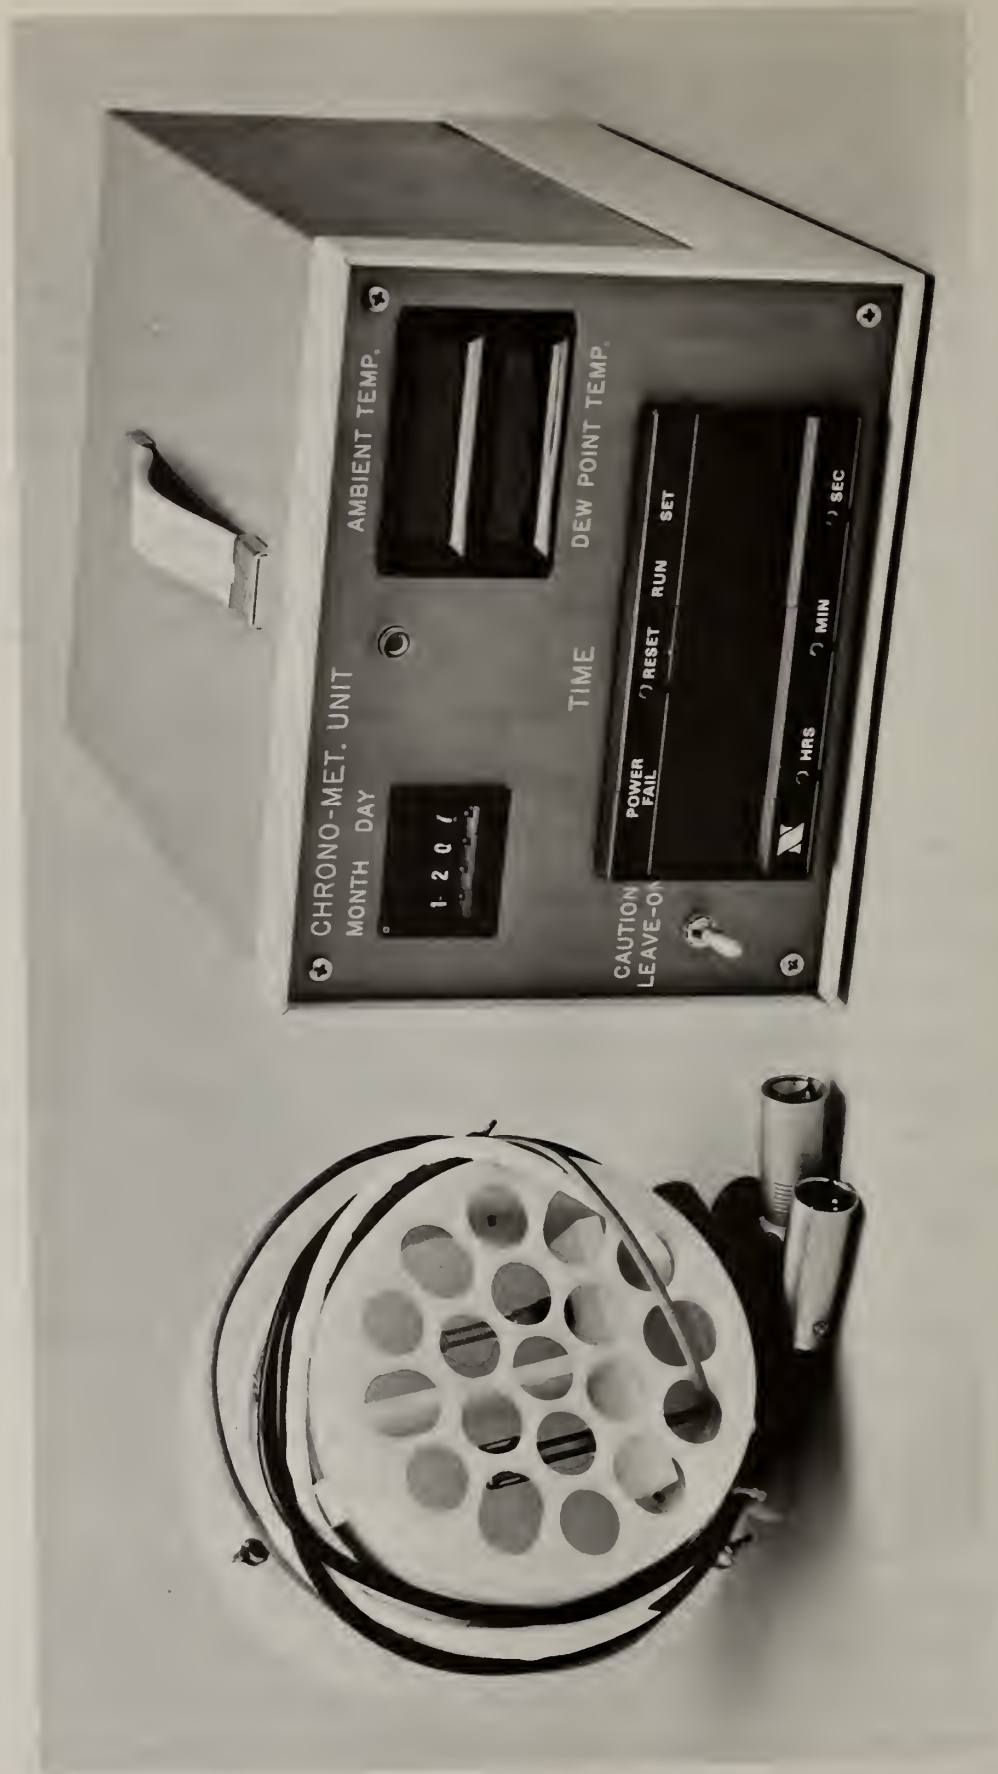

Figure 27. Clock and Temperature/Dew-Point Unit.
8. CLOCK AND TEMPERATURE/DEW POINT INSTRUCTION MANUAL (FIGURE 27)